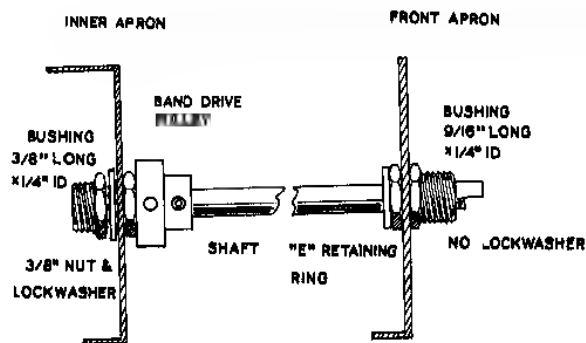

Figure 32
- () Locate the final tune drive shaft. This is the plain shaft with a single groove near the flatted end. Referring to Pictorial 23 and Figure 32, mount a 9/16" long shaft bushing with a 1/4" ID in slotted hole E on the front apron, inserting through the hole from the rear of the apron. Secure temporarily with a 3/8" nut. Do not use a lockwasher. Insert the plain end of the shaft through bushing E from the front of the chassis, then through the band drive pulley with the band secured to it, entering from the hub side. Now slide the shaft into the bushing FE on the inner front apron. Insert an E retaining ring in the shaft groove. Slide the pulley toward FE until the shaft is positioned snugly between both shaft bushings by the retaining ring and pulley. Now tighten the pulley set screw temporarily.